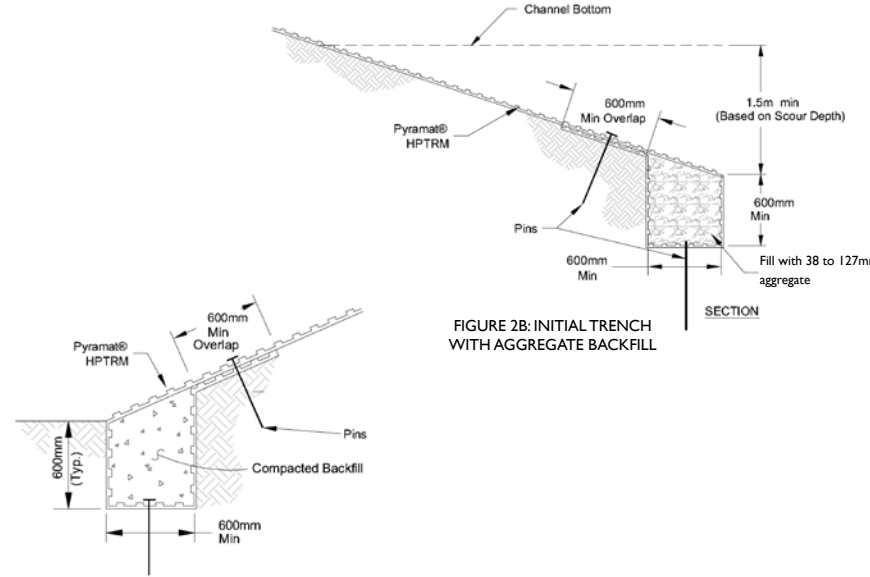

FIGURE 2A: INITIAL TRENCH AT TOE OF BANK DETAIL
- Excavate initial trench 600mm x 600mm minimum at toe of bank (see Figure 2A). Deeper initial trench and/or hard armoring may be required on banks that have the potential for scour (see Figure 2B).
- Beginning at the downstream end of flow or prevailing winds, place roll end into the initial trench (with 600mm minimum lap) and secure with pinning devices on 300mm centers (see Figure 2A, 2B). Position adjacent rolls and secure in trench in same manner. Backfill and compact soil into trench as directed and approved by Engineer.
- Secure initial trench lap with pinning devices on 300mm centers (see Figures 2A and 2B).